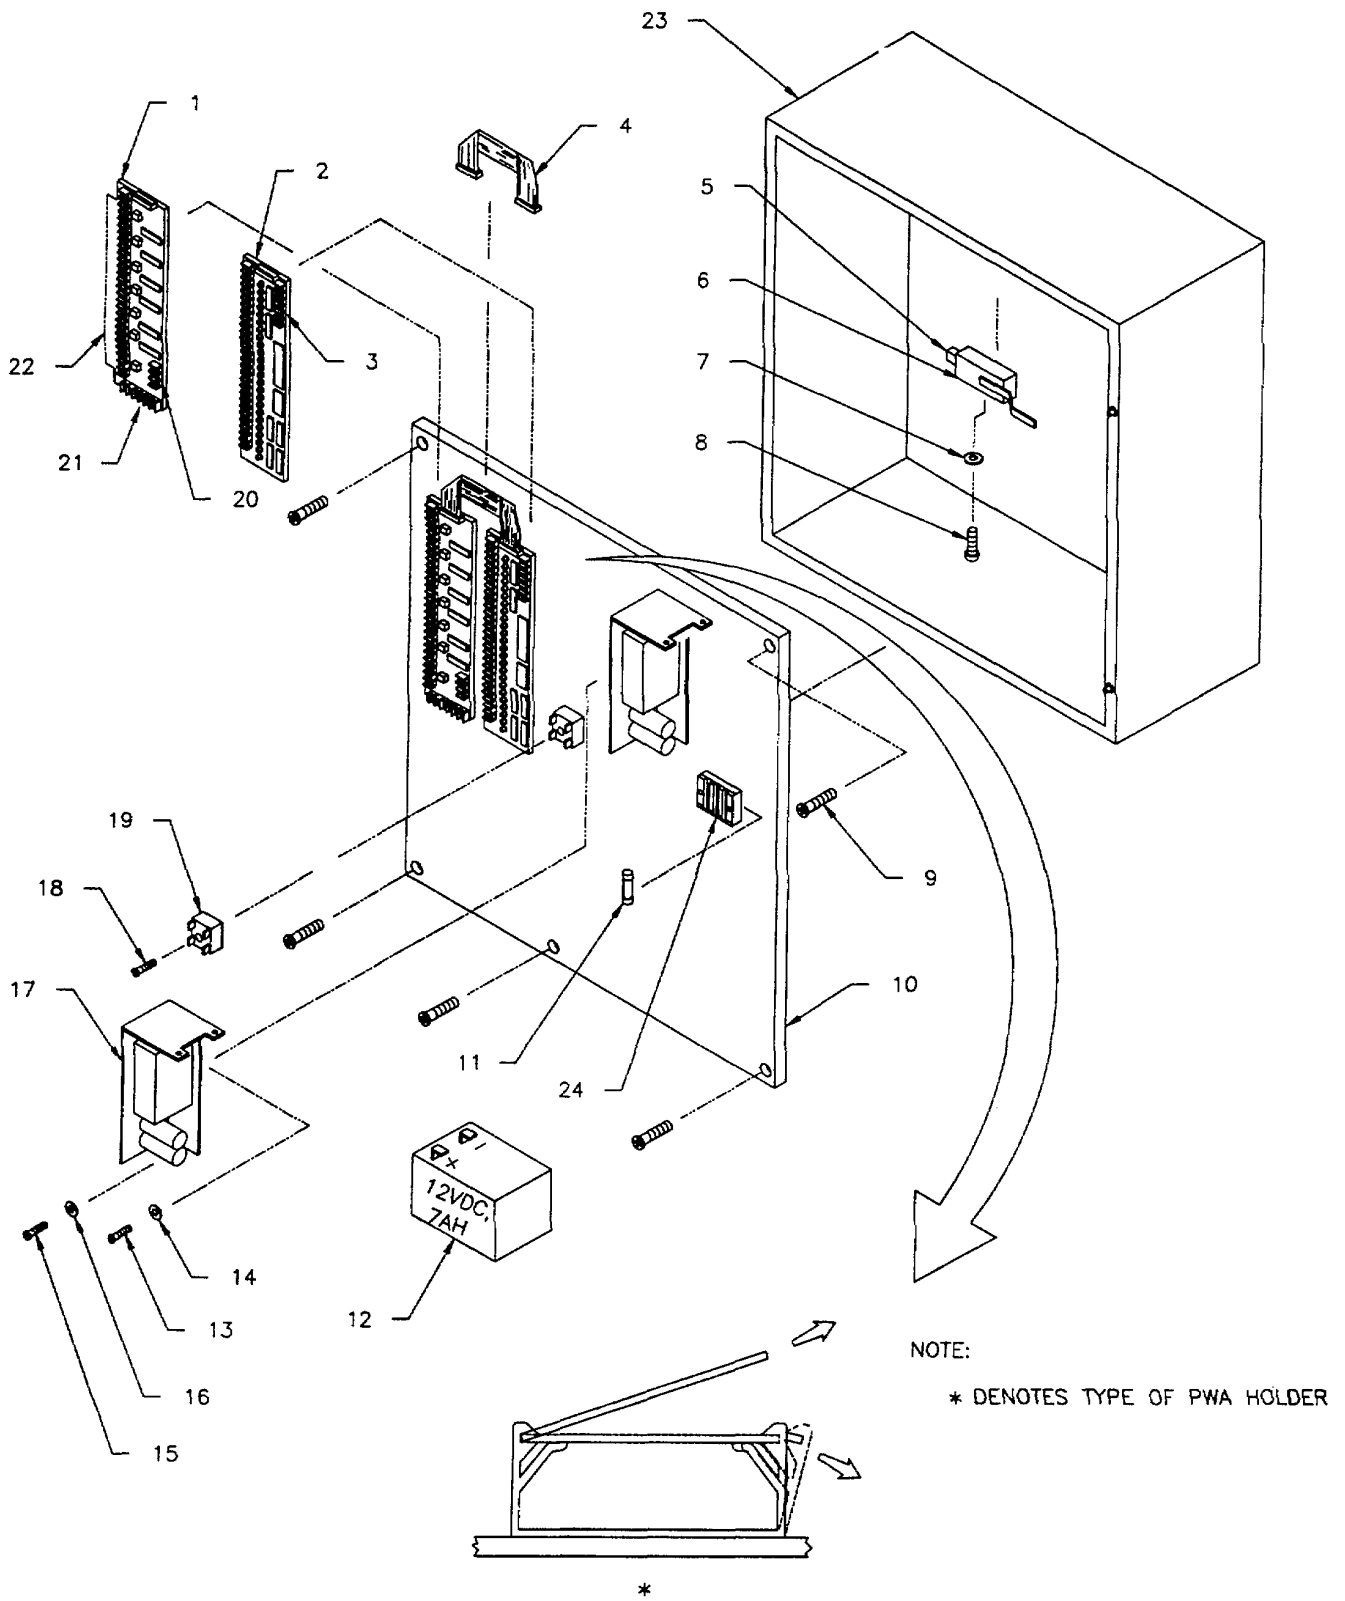

Figure 3-41. Removal and Replacement of SubRADC (Leda), with Power Supply, Interior Assemblies
- (1) Place non-conductive grease on back of Rectifier Assembly (19).
- (2) Align Rectifier Assembly (19) up with hole in Leda panel assembly (10) and secure with screw (18) and washer.
- (3) Connect the slip-on terminal connectors to Rectifier Assembly terminals (19).
- (4) Reconnect input power.
- (5) Replace enclosure cover and secure.
**3-67. REPLACE 12 VDC BATTERY.** (See Figure 3-41).
- (1) Place Battery (12) in bottom of enclosure.
- (2) Connect the two slip-on terminals to Battery (12) positive and negative terminals.
- (3) Reconnect input power.
- (4) Replace enclosure cover and secure.
**3-68. REPLACE TAMPER SWITCH.** (See Figure 3-41).
- (1) Align Tamper Switch (6) up with enclosure mount (23) and secure with two screws (8) and flat washers (7).
- (2) Connect the tagged wires and connectors (5) to Tamper Switch (6).
**3-69. REPLACE IN-LINE FUSE.** (See Figure 3-41).